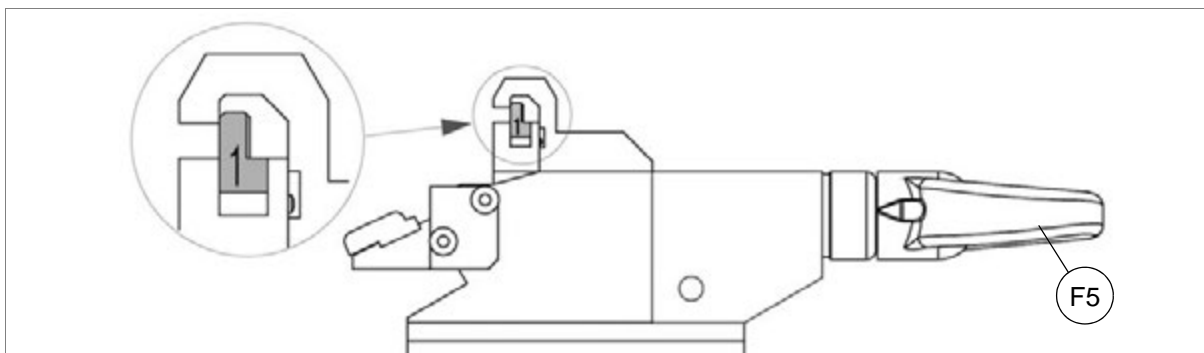

Fig. 56
- 6) Check that insert 1-2 is fitted with position **1** towards the operator (fig. 56).